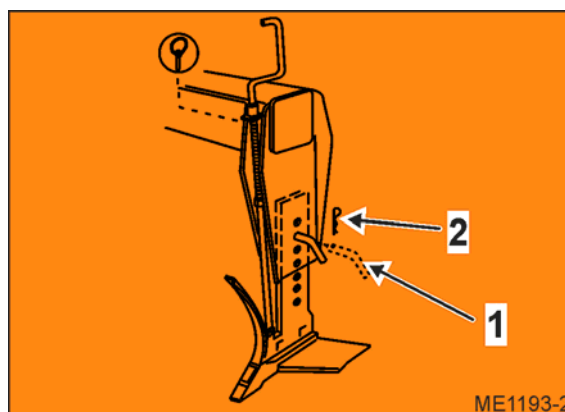

Fig. 29
6. Insert the pin (Fig. 29/1) and secure using a spring cotter pin (Fig. 29/2).